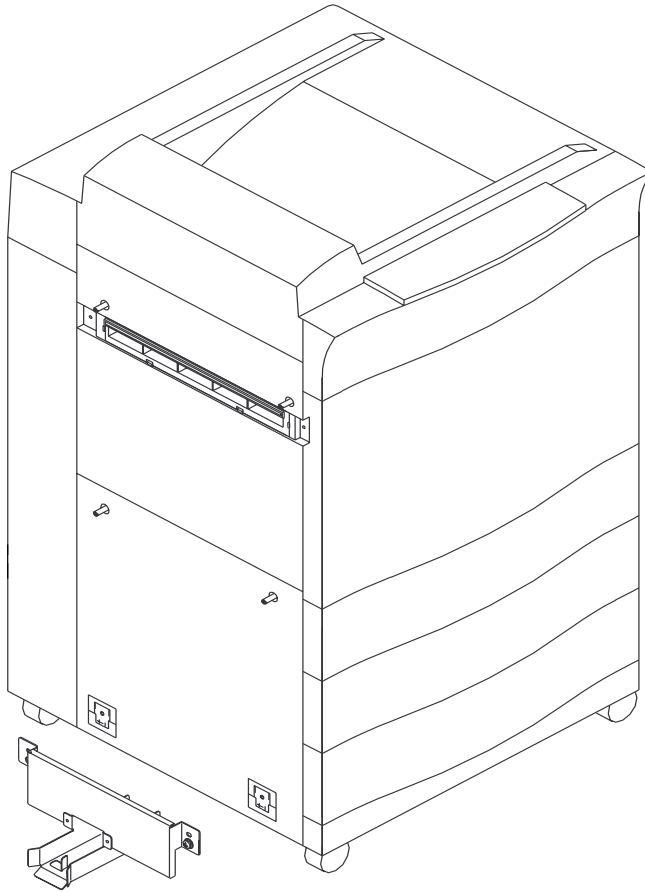

Figure 18 Attaching the stopper guide
Step 10 Use two captive screws to install the stopper guide where the square panels were located. See Figure 18.